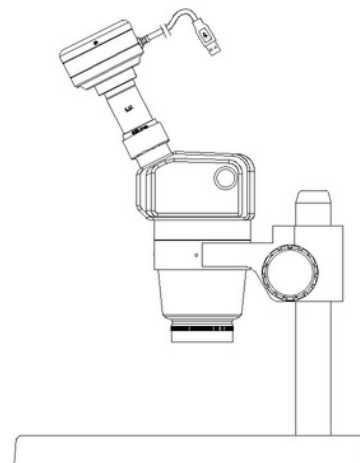

Figure3
- Set the adapter ring with Digital Camera to stereo microscope (See Figure 3).